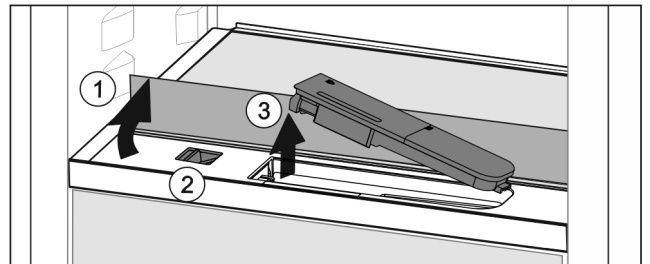

Fig. 145
- ▶ Lift the glass panel and fold towards the rear until it clicks into place *Fig. 145 (1)*.
- ▶ Slide the slider *Fig. 145 (2)* to the left.
- ▶ Remove the water tank *Fig. 145 (3)*.